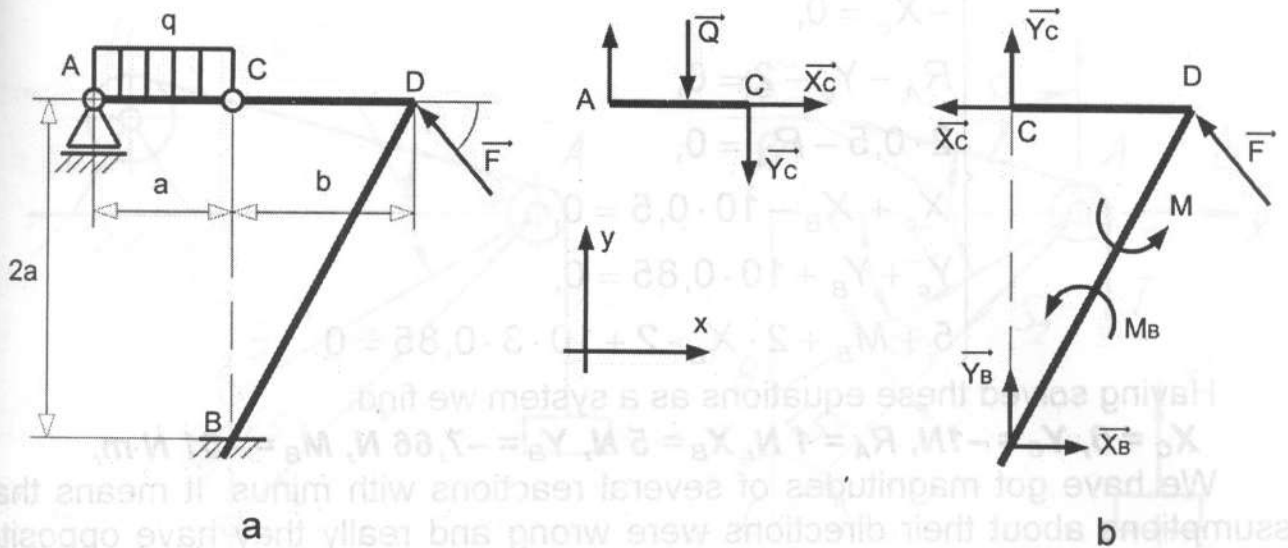

Fig. 3.2
The structure (Fig. 3.2, a) consists of two parts joined by a pin at point C and is loaded by the force  $P=10$  N, distributed load with intensity  $q=1$  N/m and couple  $M=5$  N\*m. The distances are known  $a=2$  m,  $b=3$  m, angle is  $\alpha = 60^\circ$ . Determine reactions of constraints and internal forces at point C.
- Form FBD for each part of the system (Fig. 3.2, b). The rod AC is under action of the resultant of applied distributed load  $Q$  ( $Q = q \cdot a = 1 \cdot 2 = 2$  N), reaction  $\vec{R}_A$  that is caused by sliding joint at the point A and internal reactions  $\vec{X}_C, \vec{Y}_C$  that are caused by pin joint at the point C.